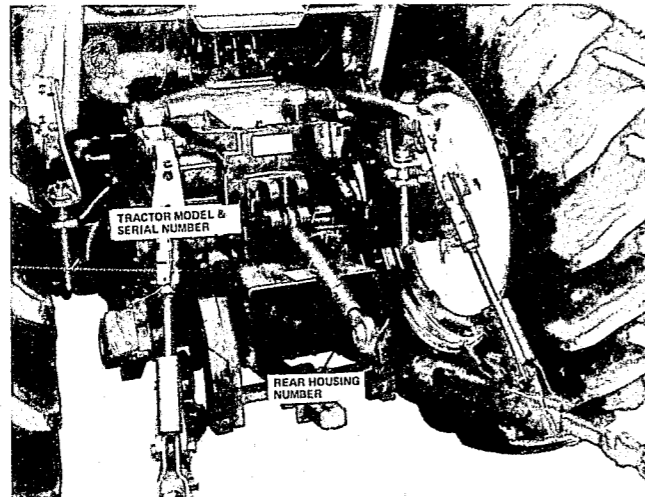

Figure 1
- The model number is also die stamped into the left side of the front flange of the torque tube, preceding the serial number. (See Figures 1 and 2)